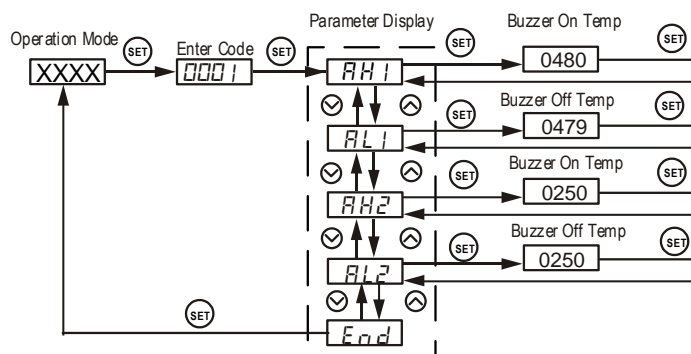

Figure 4. Steps of setting alarms. In this example, alarm1 is set as a high limit alarm at 480; alarm2 is disabled.
Steps to set an alarm are described below as well as in the flow chart in Figure 4: (1) Press SET key, change the code to 0001, and press SET again to enter alarm setting mode. (2) Press Up and Down key to select a parameter (AH1, AL1, AH2, or AL2). (3) Press SET to view the value
of the parameter. (4) Use Shift, Up, and Down key to change the value. (5) Press SET key to confirm the value and exit from this parameter. (6) Press Up or Down key to select the new parameter. (7) To exit this mode, press SET key when "End" is displayed. The procedure is showed in the flow chart in Figure 4.